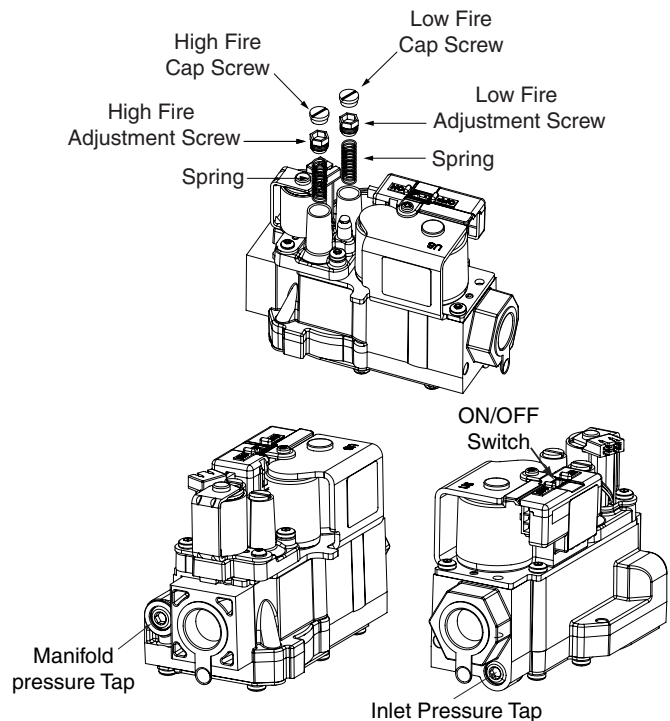

Figure 2. Two-Stage Gas Valve (Model VR9205Q1127)
by the larger springs from the kit. The LP/Propane springs for both HIGH & LOW fire are the same size, shape and color. See Figure 2 (page 4).
1. Remove the HIGH fire cap screw. See Figure 2.
2. Using a 3/16" Allen wrench, remove the plug from the inlet pressure tap (INLET side of gas valve). See Figure 2.
4. Place the gas valve ON / OFF switch to the ON position. See Figure 2.
3. Using a 3/16" Allen wrench, remove the manifold pressure tap plug located on the outlet side of the gas valve. See Figure 2.
1. Remove the cap screw (Figure 2, page 4).